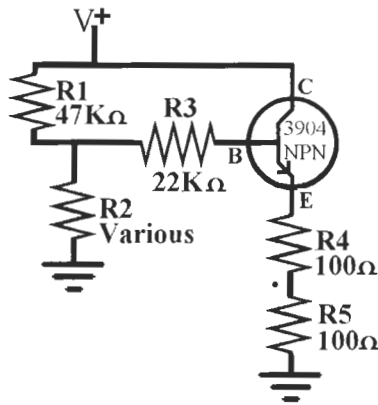
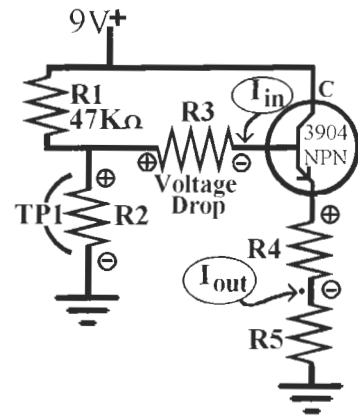

Figure L47-1
Figure L47-2
Set up a modified version of the night light circuit. The schematic in Figure L47-1 shows a few changes needed to calculate the gain of the NPN 3904 transistor.
4. In Figure L47-2, R4 and R5 make a voltage divider. Measuring the voltage drop across R4 makes it an easy task to calculate the current available at the emitter (output).
- 6. Now, using the schematic in Figure L47-2, use the values shown for R2. R2 is the only resistor that changes values. R3 keeps the 22 k $\Omega$  value shown in Figure L47-1 (see Table L47-3).